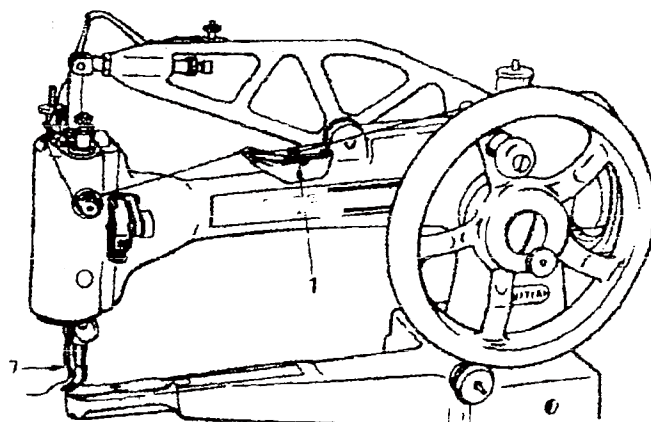

Fig. 20
2. Raise the wire guide in the oil cup on top of the arm and pass thread under guide 1 then press guide back into position. See Fig. 20.